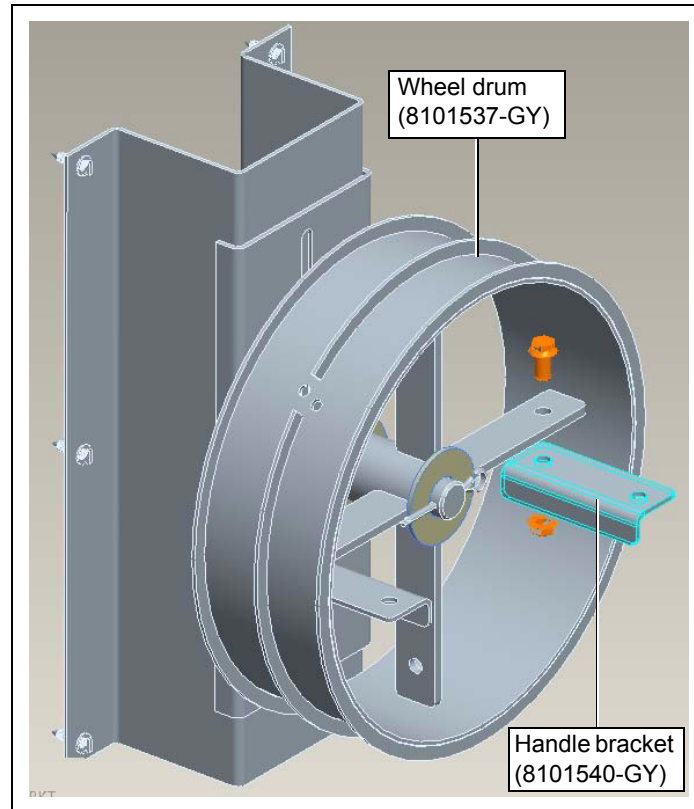

Figure 6
4. Assemble the handle brackets to the bottom side of the control wheel spokes. (See Figure 6.)